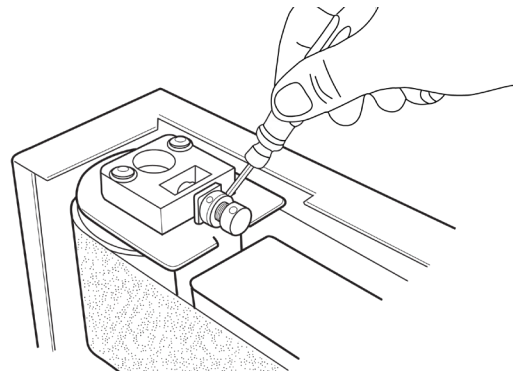

FIGURE 10
3. Based on whether the belt is tracking up or down, turn the micro adjusting screw in 1/4 – turn increments to the left or right until the belt tracks evenly on the rollers when rotated by hand. See Figure 10.